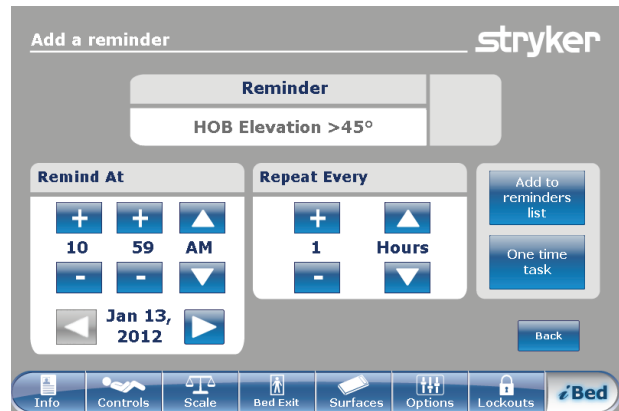

Figure 97: Setting a repeating reminder
6. Set the desired time interval for the repeated reminder (Figure 97 on page 85).
To return to the **Reminder** screen, tap **Back** (Figure 97 on page 85).